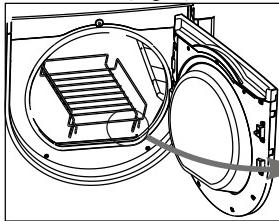

Fig.3
- Place the dryer rack so that the catches are inserted at the front and locked in place.(Fig.3)